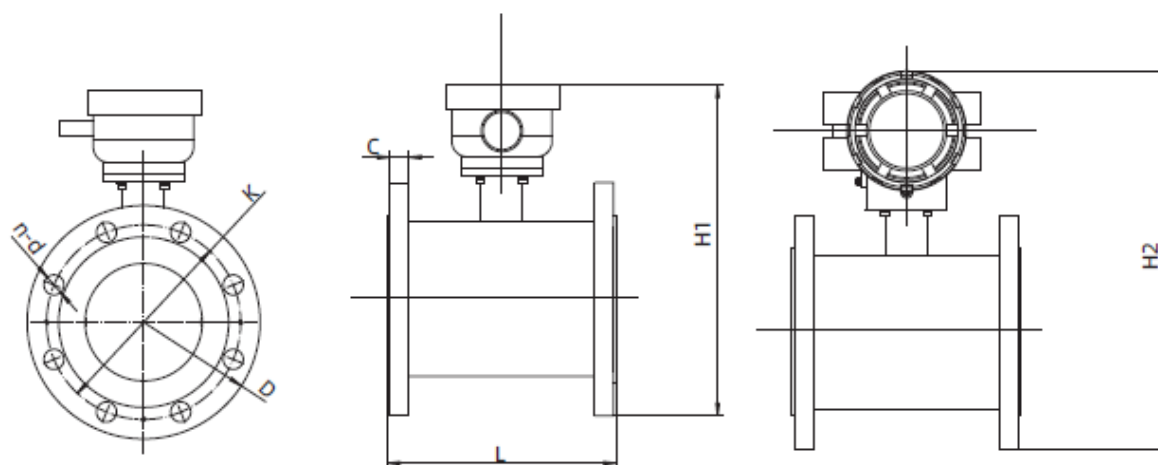

Figure 20
3.7 Sensor and converter dimensions of a pipeline magnetic flow meter, as shown in Figure 20